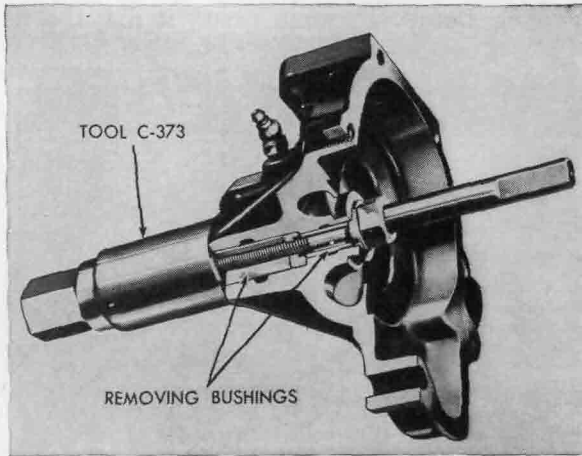
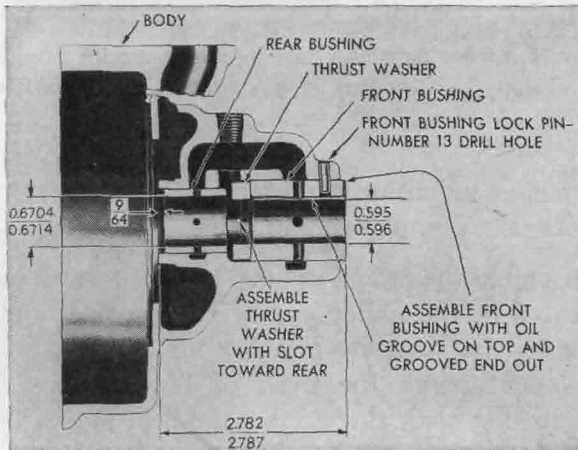

FIG. 14-19. Removing bushings from water pump with special tool. (Plymouth Division of Chrysler Corporation)
FIG. 14-20. Locations and measurements of bushings in water pump. (Plymouth Division of Chrysler Corporation)
- d. If necessary, remove the bushings by driving the front bushing pin into the shaft hole and then using special tool to force bushings out (Fig. 14-19).
special tool shown in Fig. 14-19. The special tool will assure installation of the inner bushing to a recessed depth of $\frac{3}{64}$ inch as shown in Fig. 14-20.
h. Drill hole in front bushing as shown in Fig. 14-20 with No. 13 drill, and drive in pin. Be sure all burrs are removed from inside of bushing.